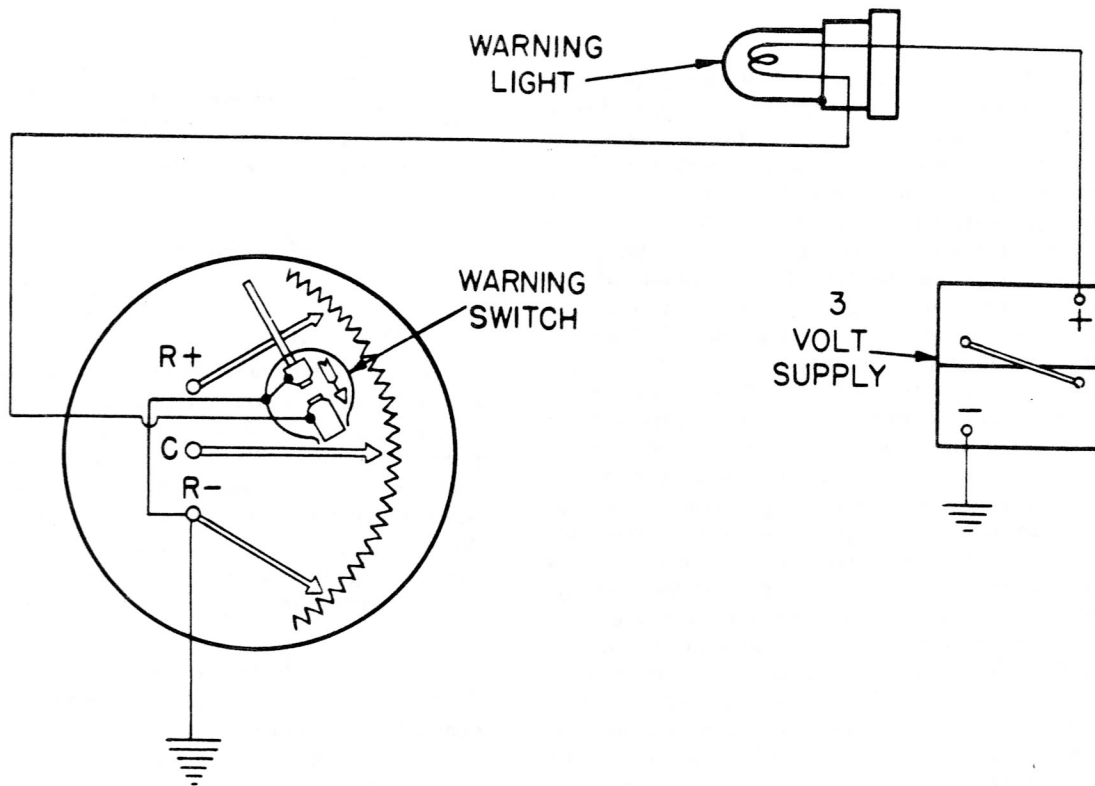

Figure 47—Wiring Diagram of Warning Switch
(4) A sealed low level warning switch which is connected to a lamp is sometimes used to indicate a predetermined low liquid level. Figure 47 shows the electrical arrangement used where low level warning signal switches are employed. The movement of arm "C" opens and closes the contact in the warning switch. An adjustment is provided so that the switch action can be set to give the warning at the desired liquid level.